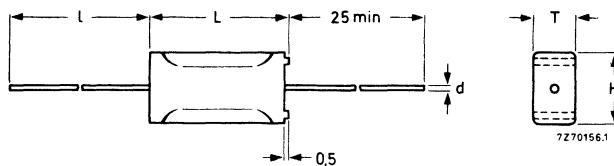

Fig. 1 Capacitors 2222 341.
Table 1-U_R (DC) = 100 V; max. AC voltage = 63 V; Fig. 1
Table 2-U_R (DC) = 250 V; max. AC voltage = 160 V; Fig. 1
Table 3-U_R (DC) = 400 V; max. AC voltage = 220 V; Fig. 1